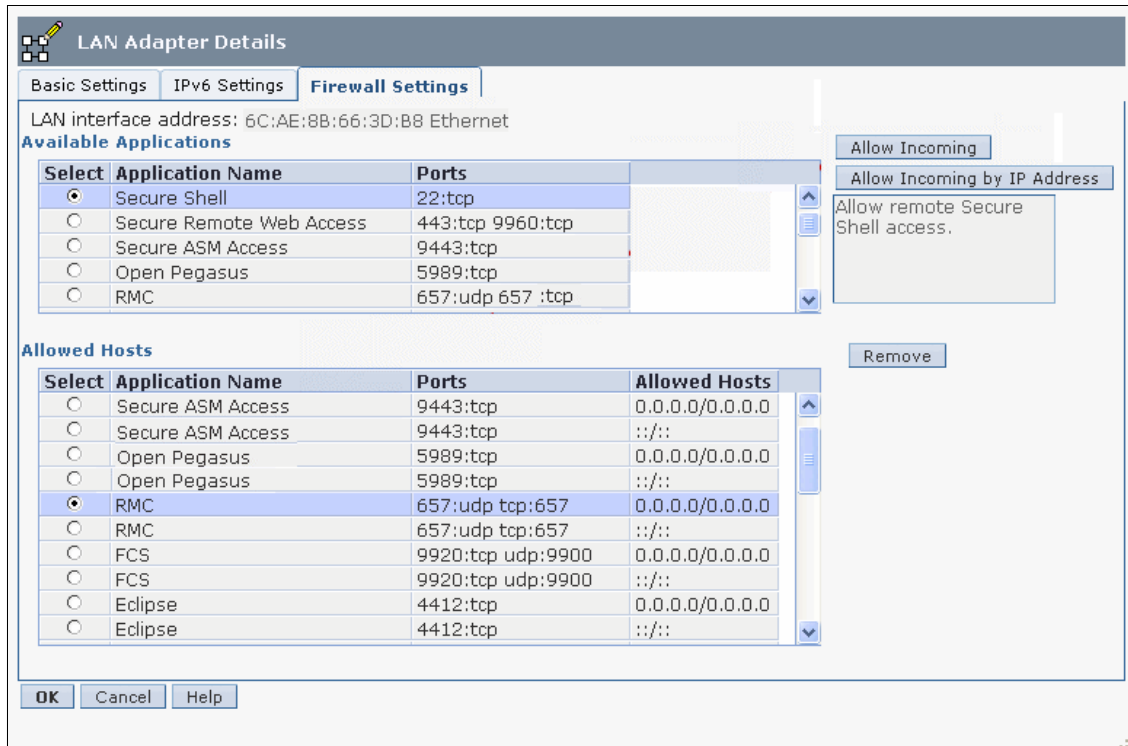

Figure 2-10 Customize Network Setting for LAN Adapters: RMC application
- Click the **Firewall Settings** tab, scroll down the Available Applications area to see whether RMC is already specified as available. In this example, we assume that RMC is not yet available. Therefore, select **RMC** in the Allowed Hosts pane and click **Allow Incoming**, as shown in Figure 2-10.